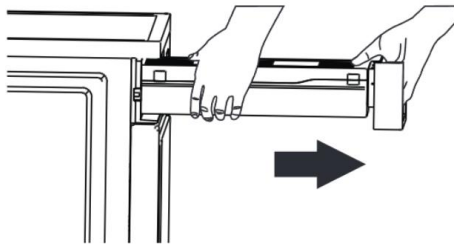
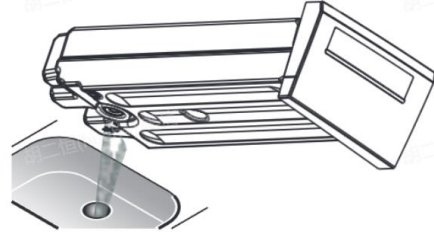

Fig.1
Fig.2
① Check the water container and clean out it. (Fig.1) & (Fig.2)